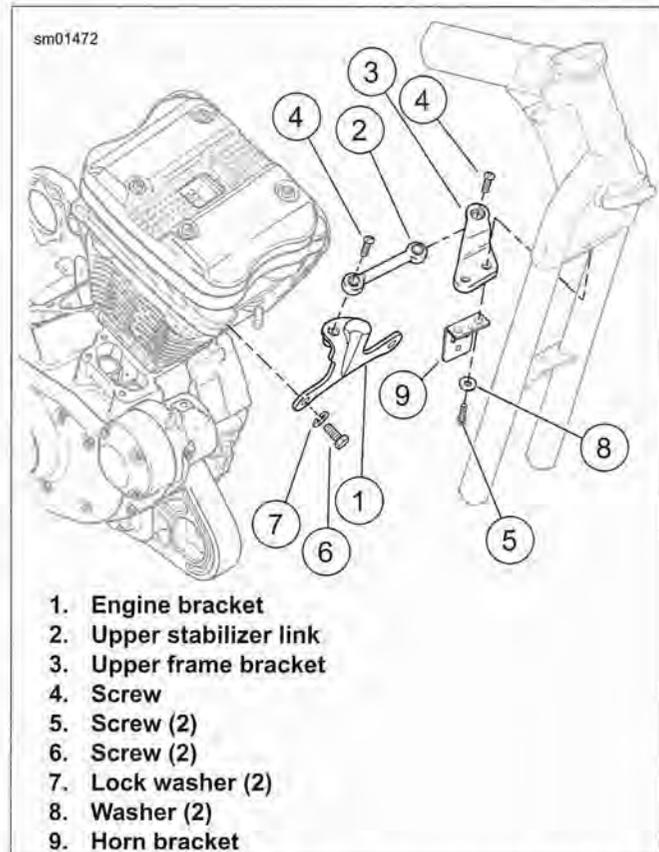

Figure 3-40. Upper Front Stabilizer Link Assembly
- d. Throttle Position (TP) sensor connector [88].
11. See Figure 3-40. Remove upper front stabilizer link and frame bracket:
- a. Remove screw (4) securing stabilizer link (2) to engine bracket (1).
- b. Remove screws (5) and washers (8). Remove horn bracket (9) (models with front mounted horn) and frame bracket (3) with stabilizer link.